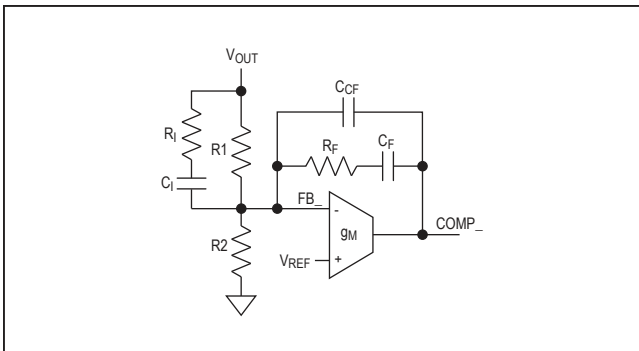

Figure 5. Type III Compensation Network
**Procedure 2 (See Figure 5)**